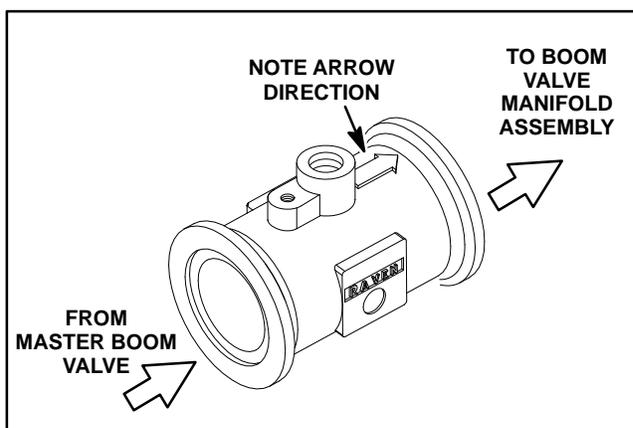

Figure 14
**IMPORTANT: Note the direction of the arrow on top of flowmeter (Fig. 14). The arrow should point toward the boom valve manifold assembly.**
3. Support flowmeter and loosen clamps that secure flowmeter to boom valve manifold assembly (item 2) and hose barb (item 6).
4. Remove flowmeter and discard gaskets (item 5). See Flowmeter Service in this chapter for additional information.
1. Assemble flowmeter, clamps and new gaskets between boom valve manifold assembly and hose barb. Make sure that arrow on flowmeter body is pointing toward the boom valve manifold assembly (Fig. 14). Tighten flowmeter clamps.